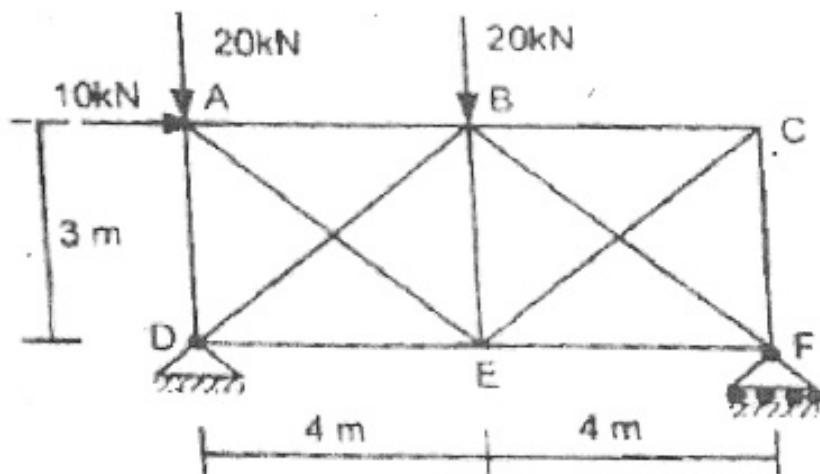

Fig. 7
7. Using flexibility method find the forces in the members AE and CE of the truss as shown in fig. by taking these as a redundant. Axial rigidity for vertical and horizontal member is EA and for diagonal member is  $2EA$ . Refer Fig. 7.